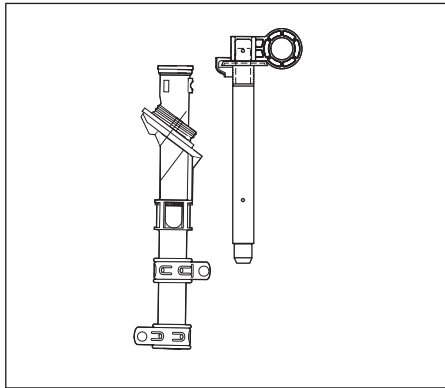

Figure 10.
**Silver Plated Bay-O-Net with inner fuse holder. (Figure 10)	4038804B03M